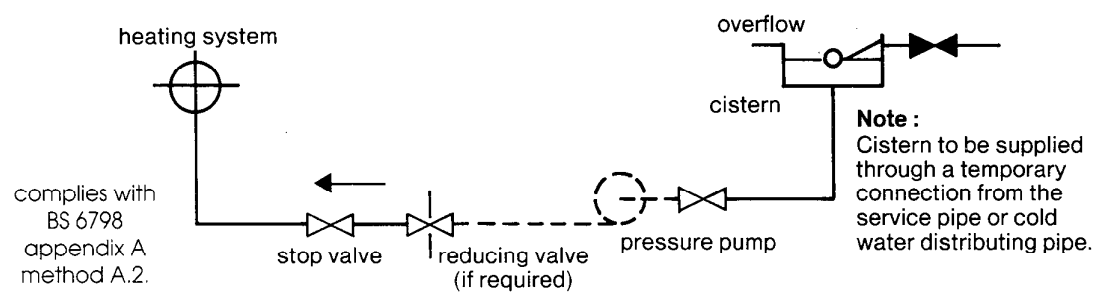

Fig. 13
2) Through a self contained unit comprising a cistern, pressure pump if required and if necessary a pressure reducing valve or flow restrictor, fig. 13.